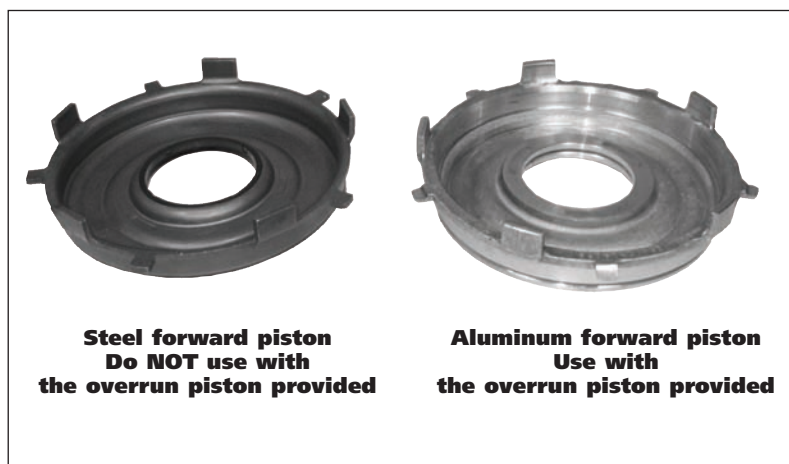

Figure 3
1. Use the modified early-style cast-aluminum OEM overrun piston with an early-style cast-aluminum forward piston. The late-model stamped steel forward piston cannot be used (see Figure 3). If you are rebuilding a late-model unit that has a stamped steel forward piston you must obtain an early-style cast-aluminum forward piston.